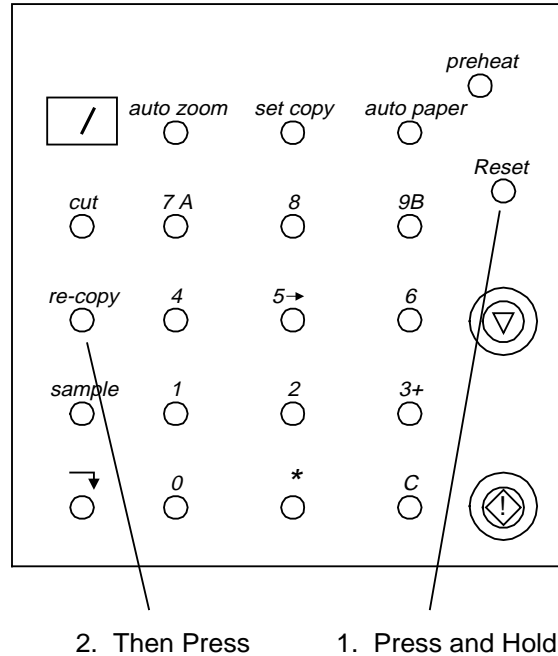

Figure 1. Removing Last Scan in Memory
To remove the last scanned image from memory, perform the following. On the Numeric Keypad Panel (Figure 1):
2. Then press the **re-copy** switch (Figure 1).